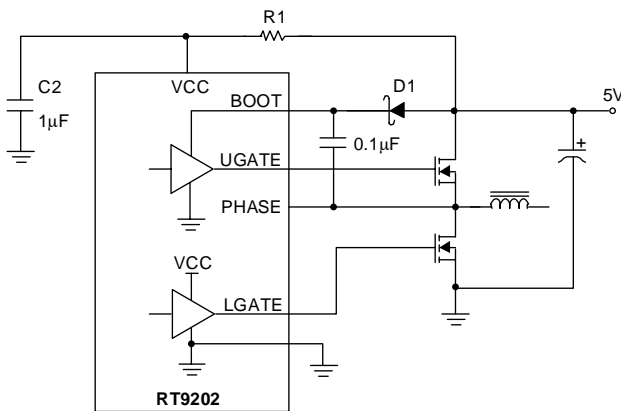

Fig.1 Single 5V power Supply Operation
In a single power supply system, the UGATE driver of RT9202 is powered by an external bootstrap circuit, as the Fig.1. The boot capacitor,  $C_{BOOT}$ , generates a floating reference at the PHASE pin. Typically a  $0.1\mu F$   $C_{BOOT}$  is enough for most of MOSFETs used with the RT9202. The voltage drop between BOOT and PHASE is refreshed to a voltage of  $V_{CC} - \text{diode drop } (V_D)$  while the low side MOSFET turning on.
The over current protection (OCP) function of the RT9202 is triggered when the voltage across the  $R_{DS(ON)}$  of upper side MOSFET that developed by drain current exceeds over-current tripping level. An external resistor ( $R_{OCSET}$ ) programs the over-current tripping level of the PWM converter. As shown on Fig.1, the internal  $40\mu A$  current sink ( $I_{OCSET}$ ) develops a voltage across  $R_{OCSET}$  ( $V_{SET}$ ) that is referenced to  $V_{IN}$ . The DRIVE signal enables the over-current comparator (OC). When the voltage across the upper MOSFET ( $V_{DS(ON)}$ ) exceeds  $V_{SET}$ , the over-current